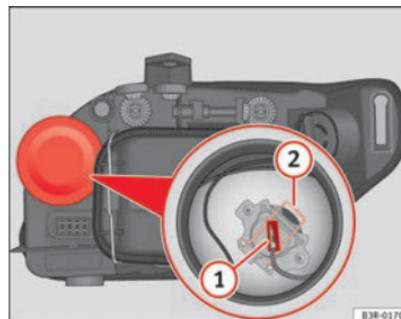

Fig. 196 Main beam headlights
- Remove connector ⇒ Fig. 196 **1** from the bulb.
- Press the spring ⇒ Fig. 196 **2** inwards and to the right.